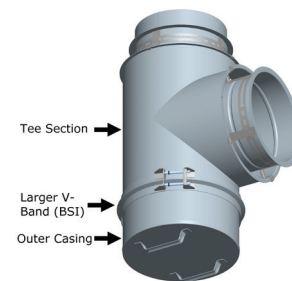

Figure 33d: Tee Cap insulated casing Step 5 and 6
- 6 - Secure with the bigger V-band (BSI) by tightening the retaining screw. See Figure 33d.